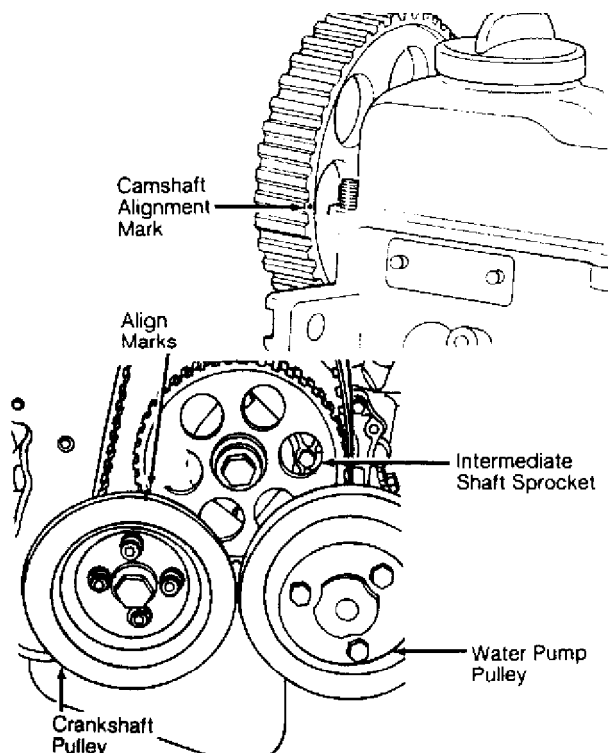

Fig. 8: Aligning 1.8L Timing Marks (8-Valve)
2) With intermediate shaft/ignition rotor positioned, rotate crankshaft and align mark on crankshaft pulley with mark on intermediate shaft sprocket. Position camshaft sprocket mark even with valve cover surface. See Fig. 8. Install timing belt.
2) Label and remove coolant hoses from water pump. Remove water pump pulley. See Fig. 8. Remove bolts and remove water pump assembly. To install, reverse removal procedure. To fill cooling system, remove thermo time switch, located on water flange.